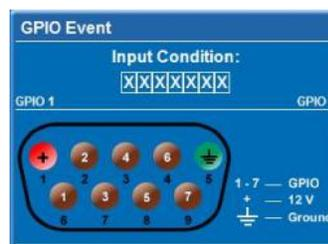

FIGURE 4-15 GPIO OUTPUT HELPER
- If a **GPIO** command string is needed, click the **GPIO Output Helper** button for instructions on how to create the command structure. **NOTES:** **1)** The **Output** field contains 7 blocks which refer to the 7 I/O pins on the GPIO connector. Pin 1 = +12V and Pin 5 = Ground. These are not included. **2)** Clicking a block toggles between H, L, and X. **3)** If the Pulse check box is selected, those I/O Pins defined will pulse high or low. See *Figure 4-15 GPIO Output Helper*. See *Appendix B:* for detailed information.